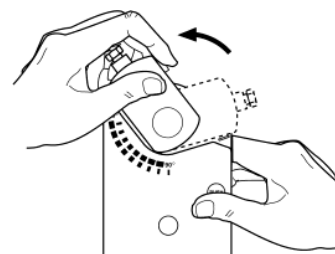

FIGURE 14
- b. Hold down the PUSH button and rotate the shaft adapter to the left until it stops. Figure 14.